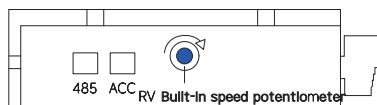

Figure1
- Built-in potentiometer RV speed control: Rotate the built-in speed control potentiometer RV CW, the motor starts to run. Turn it CCW to the limit position, the built-in potentiometer RV will be closed, and the motor will stop running---Figure 1.